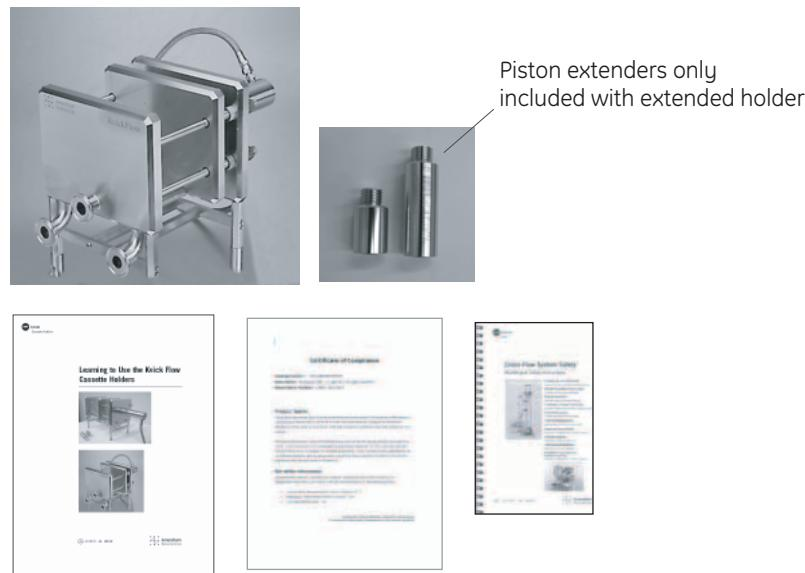

Fig 3. Contents of Kvick Flow cassette holder package (hydraulic pump not shown)
- Certificate of analysis (Fig 3)